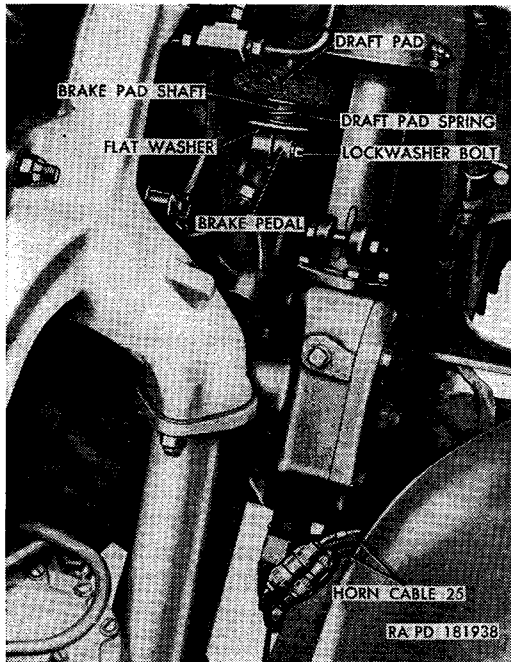
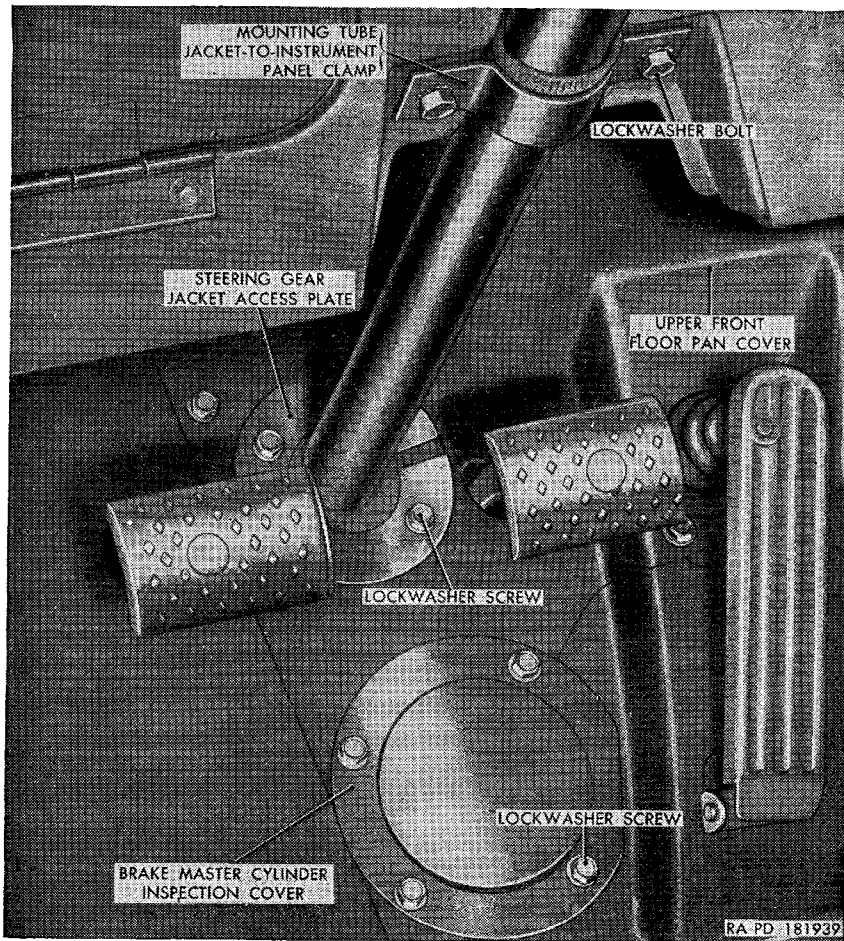
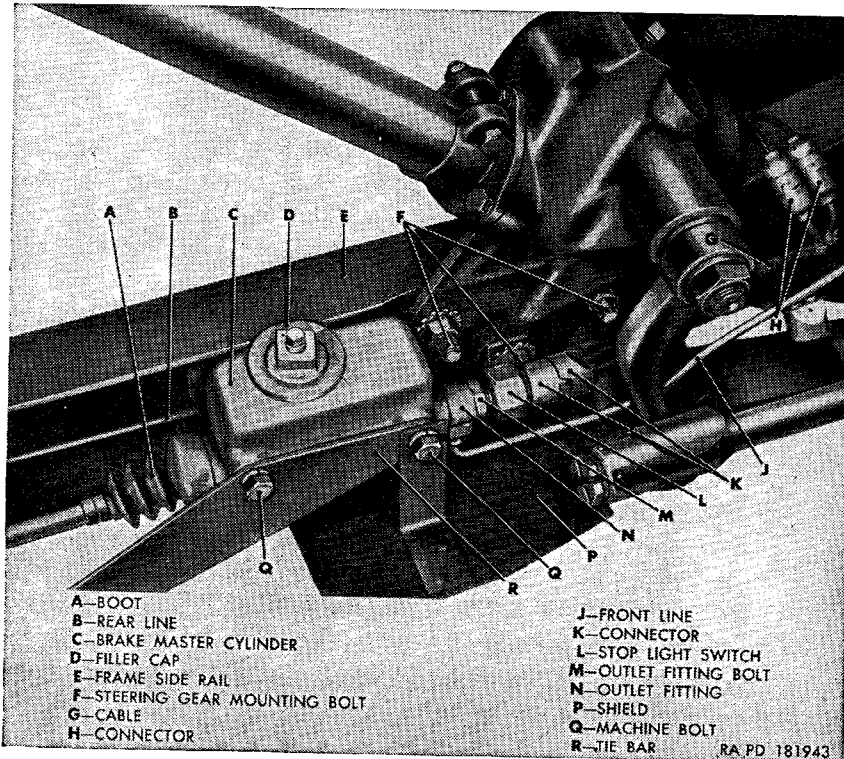

Figure 156. Disconnect points for steering gear removal—engine compartment.
Figure 157. Disconnect points for steering gear removal—driver's compartment.
Figure 161. Brake master cylinder installed—vehicle body removed.
- (1) Removal the steering wheel assembly (par. 229a).
- (2) Disconnect the steering drag link assembly from the Pitman arm (par. 227a(2)).
- (3) Disconnect the two horn cables 25 at the connectors (H, fig. 161).
- (4) Remove the brake master cylinder shield (par. 234b(1)).
- (5) Remove the lockwasher bolt from the brake pedal and pad assemblies (fig. 156) and detach the pad assembly from the pedal.
- (6) Slide the draft pad spring, flat washer, and draft pad (fig. 156) off the bottom of the draft pad assembly shaft, and pull the assembly out of the upper front floor pan cover.
- (8) Remove the four lockwasher screws securing the brake master cylinder inspection cover (fig. 157) to the upper front floor pan, and remove the cover from the pan.
- (9) Remove the two lockwasher screws securing the steering gear jacket access plate (fig. 157) to the body, and remove the plate.
- (10) Remove the 10 lockwasher screws securing the upper front floor pan cover to the body, and lift the cover from the vehicle.
- (11) Remove the three plain nuts, six internal-external-teeth lock washers, and three steering gear mounting bolts (F, fig. 161) securing the steering gear and Pitman arm assembly to the vehicle frame.
- (12) While supporting the steering gear with Pitman arm assembly, remove the two plain nuts and two lockwasher bolts from the mounting tube jacket-to-instrument panel clamp (fig. 157). Detach the clamp and gasket from the instrument panel.
- (13) Work the steering gear with pitman arm assembly out of the vehicle through the driver's compartment.
- (14) Remove the plain nut and lockwasher from the Pitman shaft. Scribe alinement marks on the Pitman arm and Pitman shaft. Using a wedge-type remover, separate the Pitman arm from the Pitman shaft.
- (1) Position the Pitman arm on the Pitman shaft with the arm scribe marks aligned with the Pitman shaft. Tap the arm onto the shaft and secure with a  $\frac{3}{4}$ -inch lockwasher and  $\frac{3}{4}$  x 2 plain nut.
- (2) Lower the steering gear with Pitman arm assembly into approximate position through the driver's compartment.
- (3) Aline the mounting tube jacket-to-instrument panel clamp (fig. 157) and gasket with the holes in the panel. Attach
- (4) Align the steering gear housing holes with vehicle frame holes. Secure the steering gear to the frame with three  $\frac{7}{16} \times 3$  steering gear mounting bolts (F, fig. 161), six  $\frac{7}{16}$ -inch internal-external-teeth lockwashers, and three  $\frac{7}{16}$ -inch plain nuts. Tighten the nuts in the mounting tube jacket-to-instrument panel clamp.
- (5) Connect the two horn cables 25 (fig. 156) at the connectors at the bottom of the steering gear on the left side of the engine compartment.
- (6) Install the brake master cylinder shield (par. 234c(8)).
- (7) Make certain that the underside of the upper front floor pan cover (fig. 157) edges are coated with permagum seal 7348567. Position the cover in the driver's compartment with the cover holes aligned with the body holes. Secure the cover to the body with ten  $\frac{1}{4} \times \frac{5}{8}$  lockwasher screws.
- (8) Make certain that the underside of the steering gear jacket access plate edges are coated with permagum seal 7348567. Position the plate with the plate holes aligned with the body holes. Secure with two  $\frac{1}{4} \times \frac{5}{8}$  lockwasher screws.
- (9) Make certain that the underside of the brake master cylinder inspection cover edges are coated with permagum seal 7348567. Position the inspection cover on the upper front floor pan cover and secure with four  $\frac{1}{4} \times \frac{5}{8}$  lockwasher screws.
- (10) From the driver's compartment, insert the brake pad assembly shaft through the upper front floor pan cover from the underside of the cover, slip the draft pad (fig. 156), flat washer, and draft pad spring on the shaft. Insert the shaft into the clamp on end of brake pedal and secure with a  $\frac{5}{16} \times 1\frac{1}{4}$  lockwasher bolt.
*Note.* The key letters noted in parentheses are in figure 161, except where otherwise indicated.
- (1) Remove the four screws with internal-teeth-lockwashers securing the brake master cylinder inspection cover (fig. 157) to the upper floor pan plate. Remove the cover.
- (2) Remove the filler cap (D) and cap gasket. Fill master cylinder with brake hydraulic fluid to within **one-half inch** of top (par. 69). Install filler cap and gasket.
- (3) Make certain that the underside edge of the cover is completely coated with permagun seal 7348567 and position cover on the upper floor pan plate with the cover holes aligned with the plate (fig. 157) holes.
- (4) Secure the cover to the plate with four  $\frac{1}{4}$  x  $\frac{5}{8}$  screws with internal-teeth lockwashers.
(b) *Installation.* Position the line assembly (Q) between the master cylinder outlet fitting (N, fig. 161) and the flexible line assembly (front tee-to-master cylinder front line) (Y) and install the nuts at each end of the line. Push the line into the clip (R). Install the master cylinder shield (par. 234c(8)). Bleed brakes (par. 237).
(b) *Installation.* Position the line assembly (J) between the outlet fitting (N, fig. 161) and the flexible line assembly (rear tee-to-master cylinder rear line) (H) and install the nuts at each end of the line. Push the line into the three clips (L, M, and N). Install the master cylinder shield assembly (par. 234c(8)). Bleed brakes (par. 237).